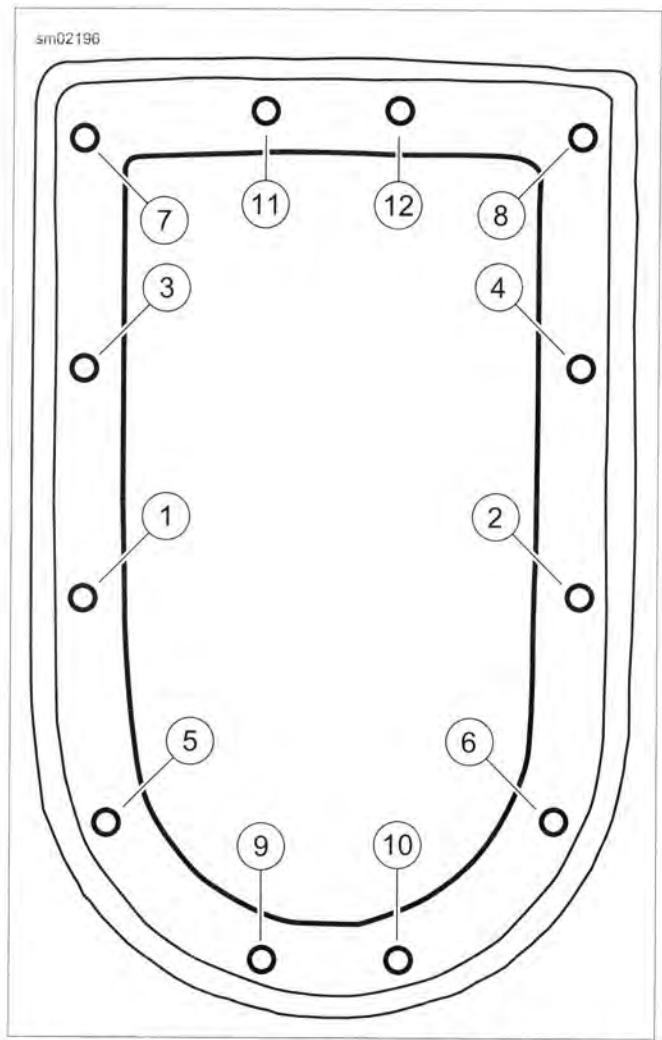

Figure 7-71. Top Plate Torque Sequence: All Models
- See Figure 7-71. Tighten sealing fasteners using pattern shown to 27-33 in-lbs (3.1-3.7 Nm).